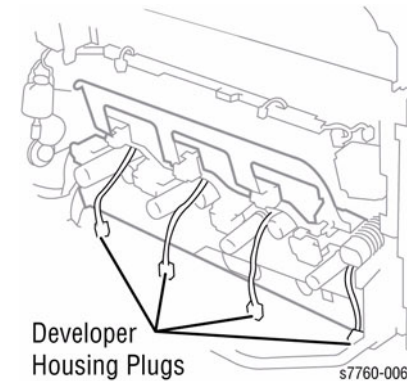

Figure 1 Disconnecting Developer Housing Plugs
10. Disconnect the wiring harnesses to all 4 Developer Housing Assemblies and remove them from under their Retaining Clips and dress the wires so they stick straight out to the front of the Printer (Figure 1).